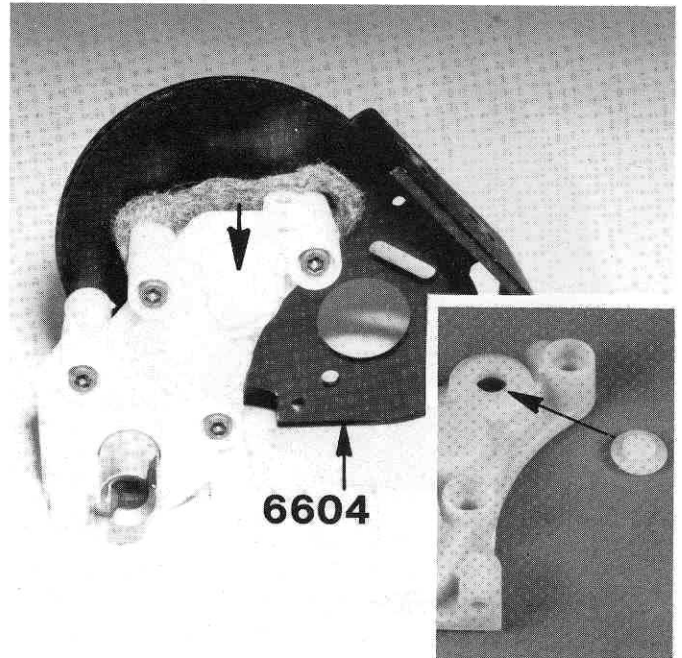

Fig. 59 **Fig. 59A**
□ **Fig. 59** Now take the #6607 gold motor mount (in the tranny bag) and bolt the tranny to it in the location shown and tighten the four bolts. Then install the small plastic dust cap (in Bag C) in the case, where the arrow indicates.